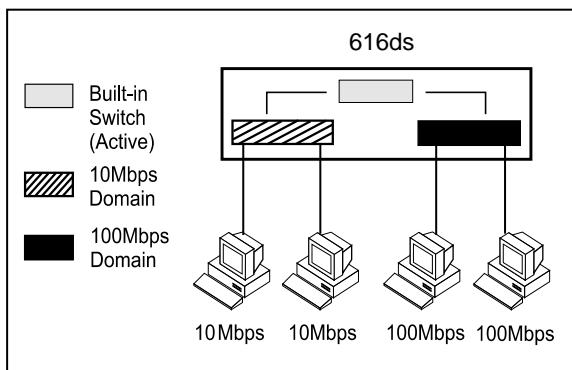

Figure 3-1 Separate domains in ALH-616ds.
- For stand-alone one, the ALH-616ds consists of separate 10Mbps and 100Mbps network domains with one built-in switch to inter-connect the data in domains, as shown in Figure 3-1.